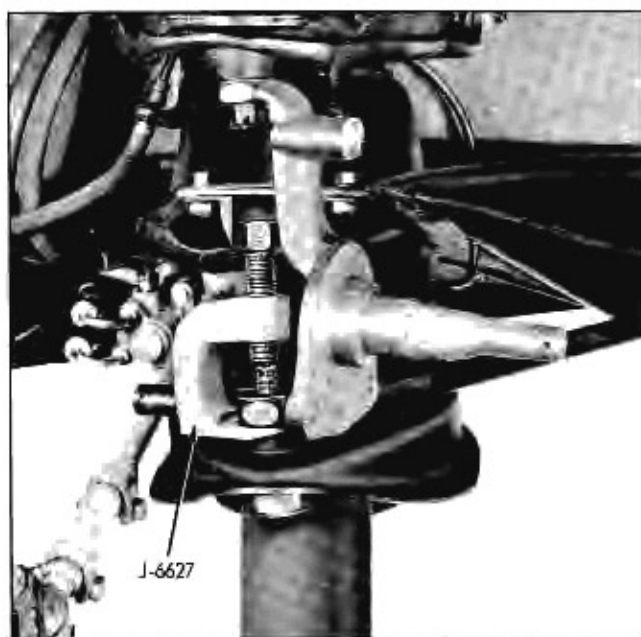

Fig. 3-18 Removing Lower Ball Stud
4. Place stand under control arm (Fig. 3-18). Take up slightly on spring compression.
5. Remove lower ball stud from steering knuckle with J-6627 (Fig. 3-18).